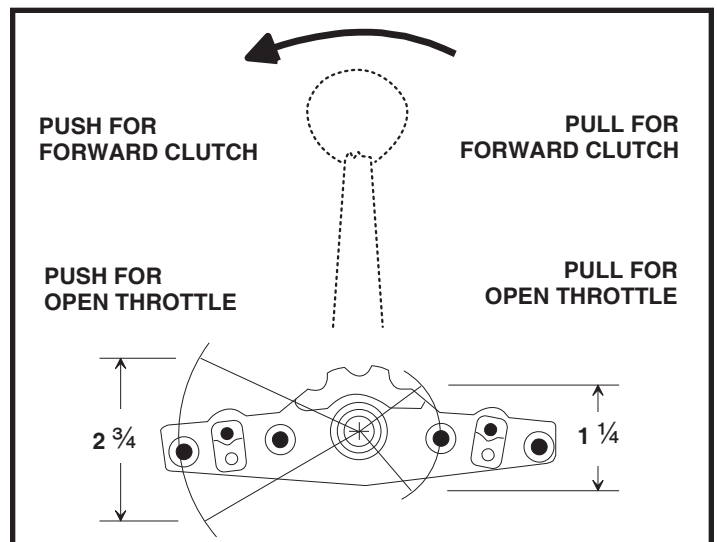

FIGURE 3
Cable will be installed in control using outer hole (2 3/4" travel) of control arm in either the push or pull mode as required. Push is toward bow and pull is toward stern of boat. (See Figure 3.)
1. Determine whether push or pull cable action is required. Refer to Figure 3 on page 3.